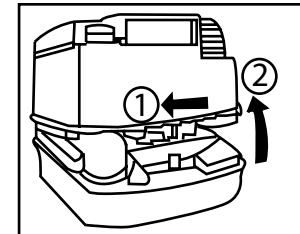

Figure 7
3. Remove fresh water tank from waste holding tank (Fig. 7).